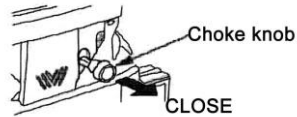

Fig.10
2. Push the choke lever to “ CLOSE ”. (Fig.10) 。